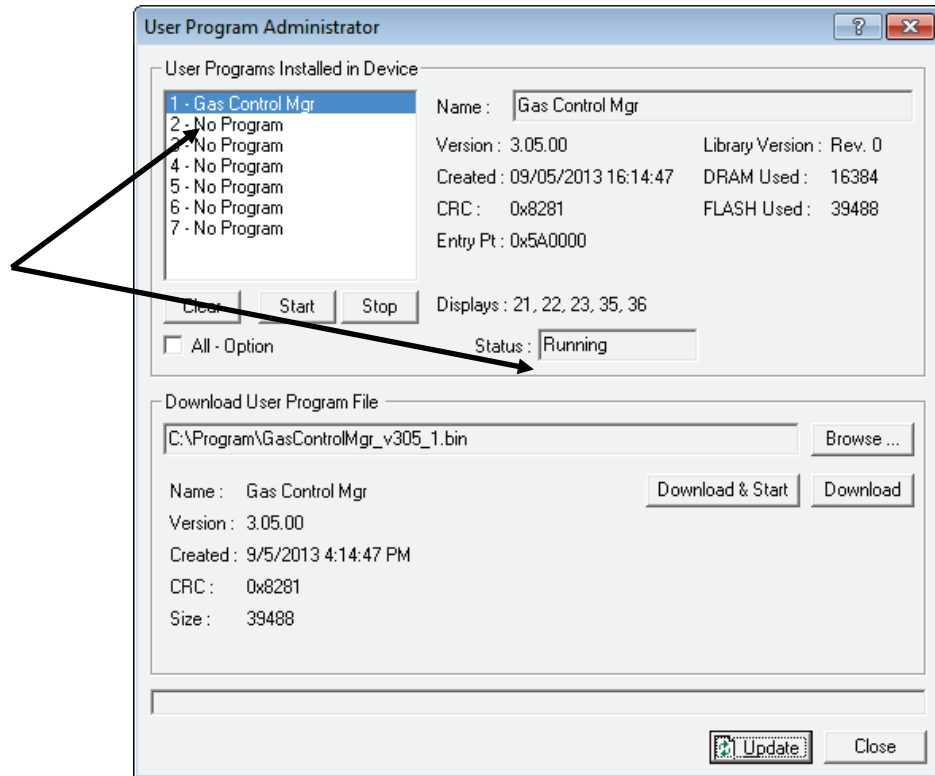

Figure 8. User Program Administrator
9. Click **OK**. The User Program Administrator screen displays (see *Figure 8*). Note that: